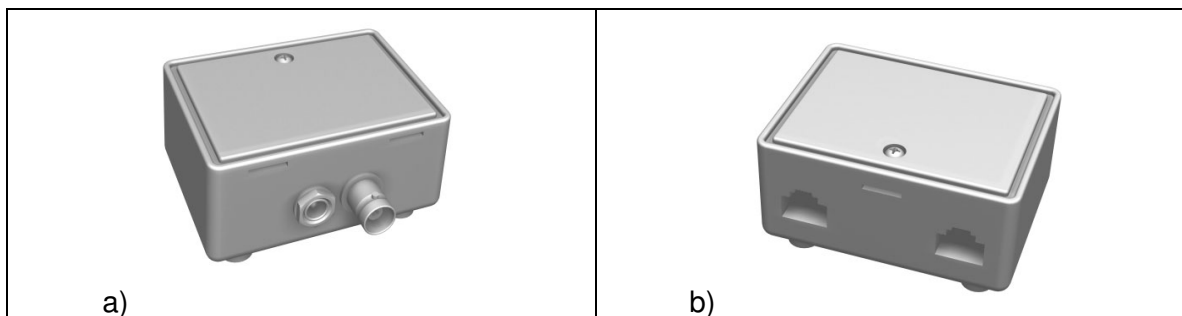

Figure 16: Cable Adapter (a) front, b) back)
- Connect the DC power jack cable to the GPS cable adapter and to the connector installed on the front panel of the Fan Tray Unit (GPS Power Supply -12V, see **Figure 16**).